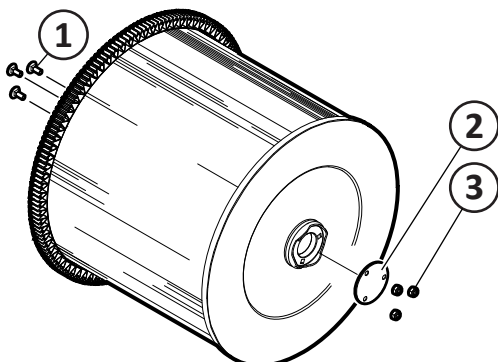
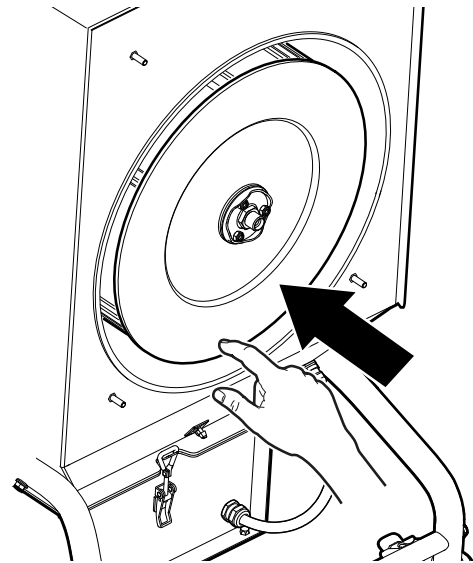
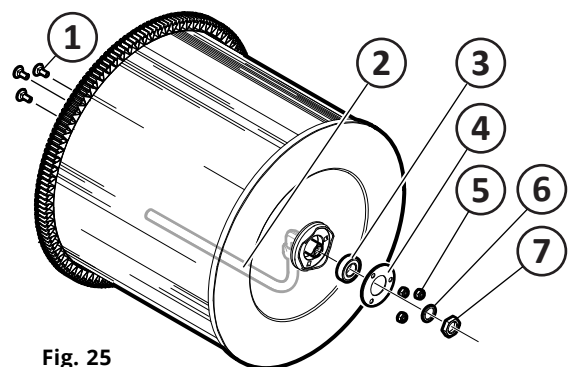

Fig. 23
Fig. 24
Fig. 25
1. Refit the carriage bolts (pos 1, **Fig. 23**) inside the filter cartridge.
2. Refit the cover plate (2) and secure with the lock nuts (3).
3. Carefully insert the new filter cartridge horizontally until the crank rim drops down from the filter brushes (**Fig. 24**).
6. Refit the carriage bolts (pos 1, **Fig. 25**) and nozzle (2) inside the filter cartridge.
7. Fit the bearings (3), refit the cover plate (4) and secure with the lock nuts (5).
8. Screw the nozzle (2) in place with the washer (6) and nut (7).
9. Carefully insert the new filter cartridge horizontally until the crank rim drops down from the filter brushes (**Fig. 24**).
Dimensions: See **Fig. 25**